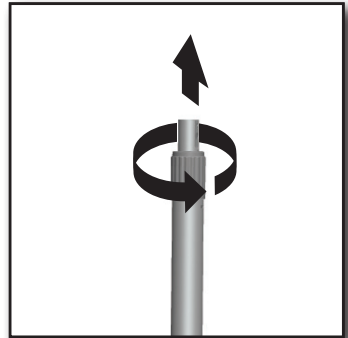

Figure 7.
1. Grasp the Telescope Pole firmly and twist the Adjustment Knob Counter Clockwise to loosen. Figure 7.